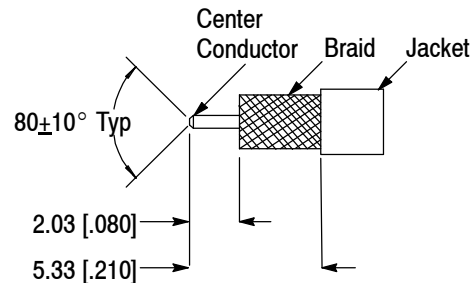

Figure 2
1. Strip the cable to the dimensions shown in Figure 2.